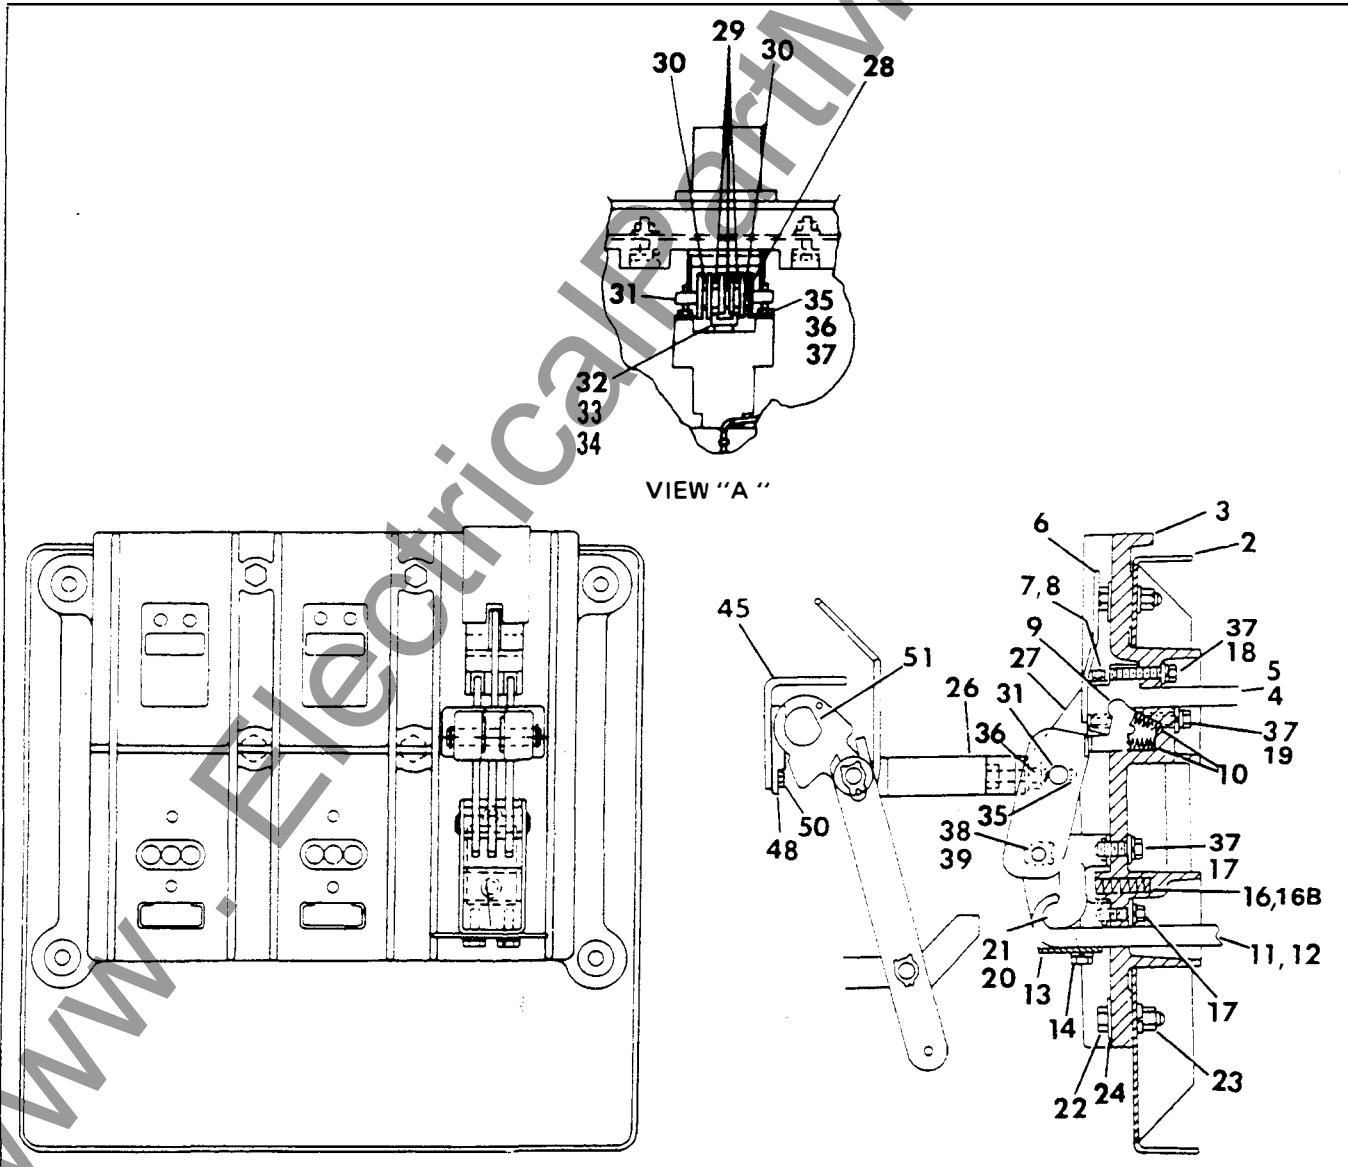

Figure 8. Contact Assembly
with a **normal** closing operation — not maintenance closing. Adjustment is provided by positioning screws (35) after loosening nuts (36). Counterclockwise rotation of screws (35) increases compression. Care should be taken to retighten nuts (36) after adjustment. If it is desired to check contact pressure, a push-type spring scale can be used to compress contact fingers (9) with breaker open. Contact pressure should be between 20 and 30 pounds (9.1-13.6 kg) on each finger. (See Figure 8.)
that the main contact compression be maintained within the tolerance listed in the previous paragraph. Arcing contact pressure should be between 30 and 40 pounds (13.6-18.2 kg) when checked with a pull-type spring scale at the base of the arcing contact tip insert with the circuit breaker contacts closed. Measure each blade separately. (See Figure 8.)
Remove two screws on each side of lower connector. The complete movable contact assembly may now be brought to the bench. The location of spacers should be noted, if necessary. (See Figure 8.)
The stationary arcing contact is a part of connector (4) and may be replaced by proceeding as above. In this case, screws (18) must be removed. However, to provide clearance for removal of connector (4), first insert a 3/16" (4.7 mm) diameter rod at least 2" (50 mm) long through the opening in support (13). It may be necessary to compress contact (21) opposite arcing contact (27), in order to insert the rod. This will hold hinge contact fingers (21) in position to permit removal of pin (38). After removal of pin (38), main contact (28), and arcing contact (27) can be positioned so that connector (5) can be removed. (See Figure 8.)
Remove top screw (17) from support (13), and replace it with a 1/4-20 screw at least 1-1/2" long. Remove lower screws and then gradually back off the 1-1/2" screw to relieve the loading from springs (16). The hinge contact fingers can now be removed. To provide easier access to the hinge contact fingers, pin (38) may be removed after the loading is relieved from springs (16). (See Figure 8.)